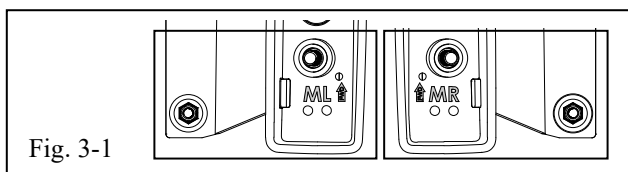

Fig. 3-1
- b) Identify the placement and orientation of the stanchions, by referring to the letters and arrows embossed on the bottom of the stanchion (Fig 3-1).